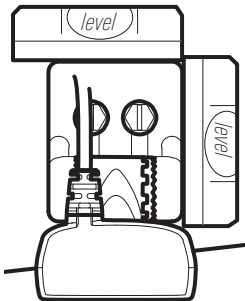

Figure 23
7. Continue to adjust until the bracket is also level from port to starboard (horizontally level as you look at the transducer from behind the boat [Figure 23]).